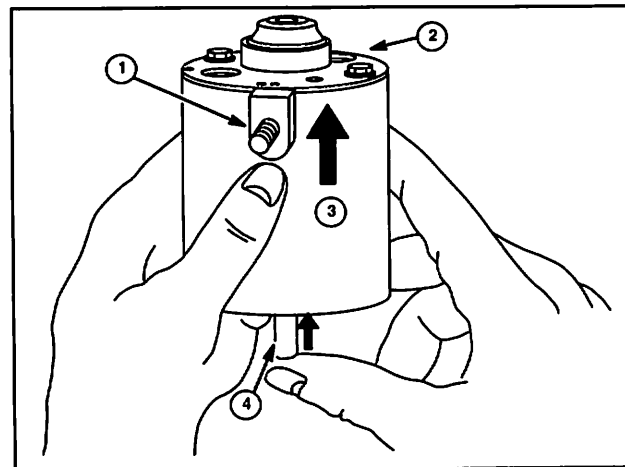

Fig. 35
6. Push motor armature out through bottom of starter housing (3), taking care to slide rubber mounted terminal (1) out of motor housing (3) along with end cap (2), Fig. 35.